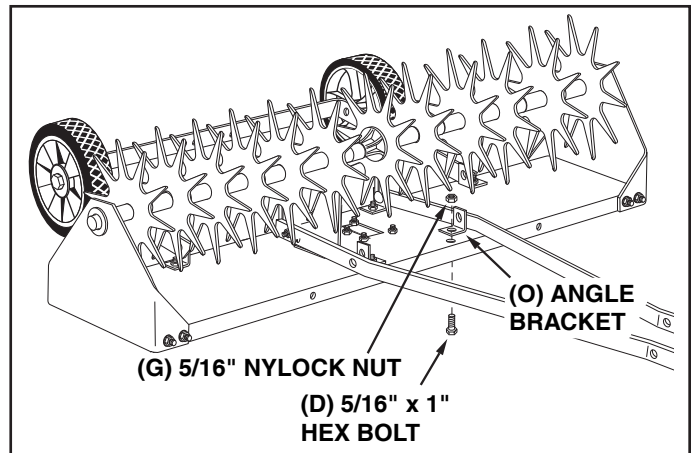

FIGURE 11
18. Turn the tray so that the front faces you. Assemble two angle brackets (O) to the holes in the bottom of the tray using two 5/16" x 1" hex bolts (D) and 5/16" nylock nuts (G). **Do not tighten yet**. See figure 11.